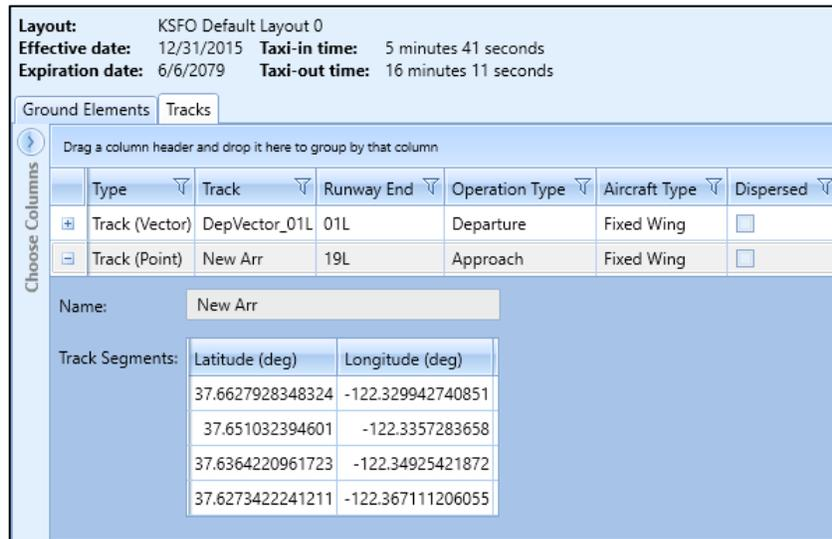

Figure 13. Arrival Point Track
7. The new Arrival point track has been saved to the layout and added to the list of Layout components. Notice that the track is defined by the latitude and longitude of the points (Figure 13).